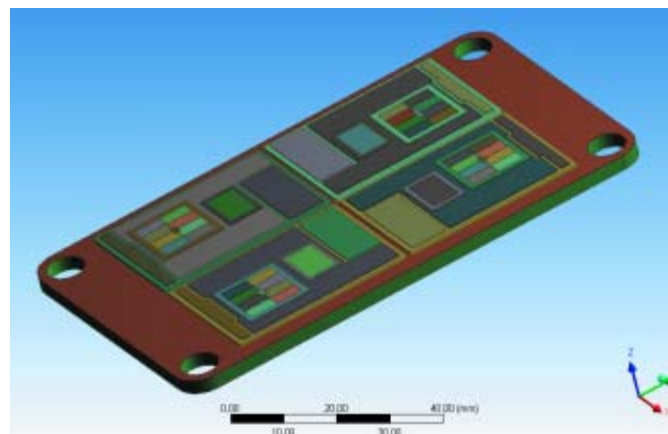

Figure 1a: IGBT module with AlSiC base plate, 3D-Pattern of IGBT module
Standard industrial 600 V and 1200 V insulated gate bipolar transistor (IGBT) half-bridge (HB) modules are common, but single-switch (SS), full-bridge (FB) and three-phase-bridge (3 $\phi$ ) are available for many applications. These modules are bolted to large heatsinks, and high current terminals are bolted to power leads and bus bars. Usually fast-on leads are used for gate and sense connections, and for power leads at currents up to 50A. Figures 1a & 1b show such industrial HB power modules commonly used for 240 and 480 V ac applications with currents of 50 to 600 A and maximum voltages of 600-1200V plus. These modules limit switching speeds due to high stray inductance of 40nH. These modules also have long leads and wire bonds that have high resistance that creates significant conductive losses.
The simplified 2D model of power semiconductor module with soldered interfaces was used for determination of solder joint physical and mechanical characteristics, as well as influence of solder layers thickness and properties on mechanical stresses. "Electrovipryamitel" IGBT module with AlSiC base plate was used as example for calculations (Figure 1a).